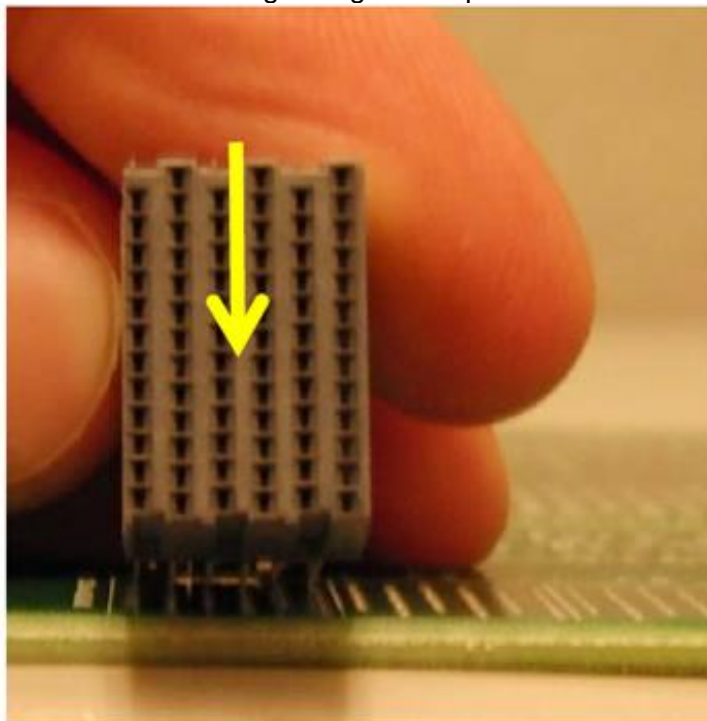

Figure 3: Back row of the DC Connector compliant pins in the PTH.
Step 6. When placing the daughtercard connector onto the PCB, orient the board and pallet so when the connector is placed, the window side will be facing you and the stiffener side will be facing away from you. Hold the connector up off the PCB, and place the back row of compliant pins into the correct plated through hole (PTH), see Figure 3. With the front of the connector still up off the board, roll the connector back to front, into the remaining PTHs, see Figures 4-5.